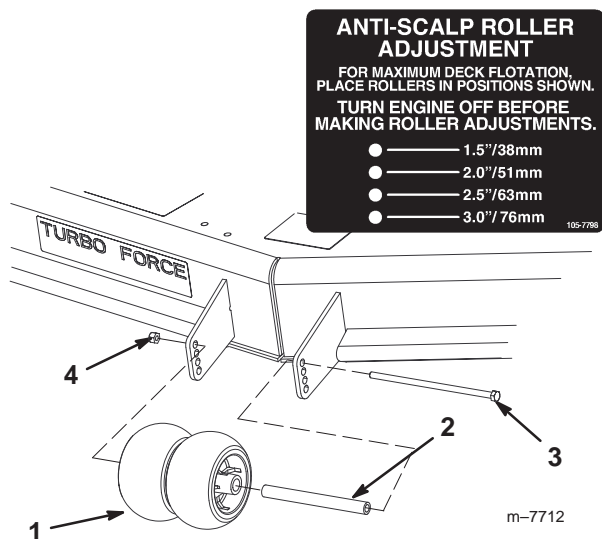

Figure 19
3. After adjusting the height-of-cut, remove the flange nut, bushing, and bolt (Fig. 19).
4. Select a hole so that the center rollers are positioned to the nearest corresponding height-of-cut desired (Fig. 19).
5. Install the center rollers, bushing, spacer, bolt, and nut (Fig. 19).